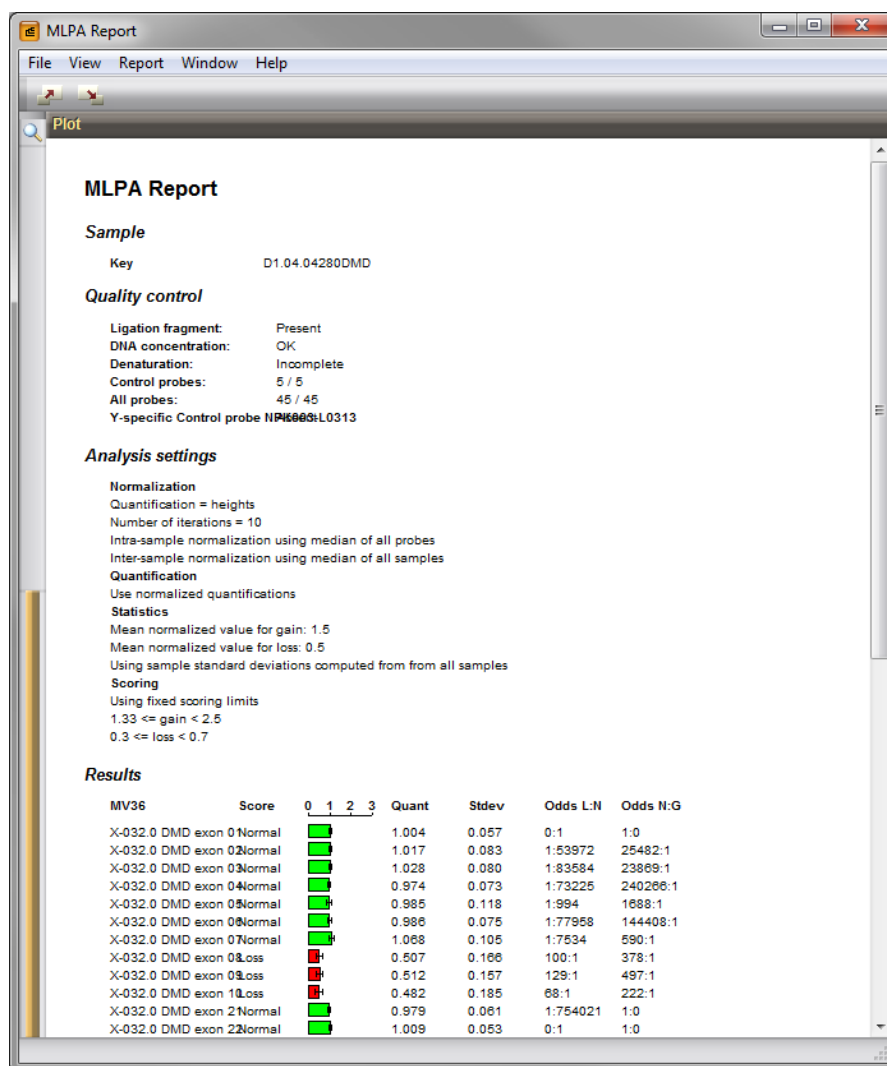

Figure 4.16: The *MLPA report window*.
9.3 Press <OK>. This shows a *MLPA report window* as depicted in Figure 4.16.